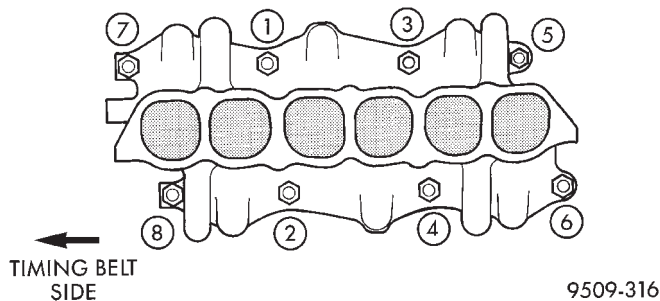

Fig. 29 Intake Manifold Tightening Sequence
- (1) Install intake manifold with new gaskets. Tighten in sequence shown in (Fig. 29) to 21 N-m (185 in. lbs.).